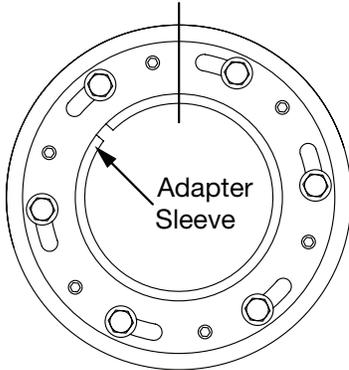

Figure 2 - Mark face of external nut and adapter.
4. **Important: Mark a line on the adapter and external nut to be used as a location reference – see Figure 2. This is a critical point and represents the location of the nut assembly before the hex head bolts are tightened.**